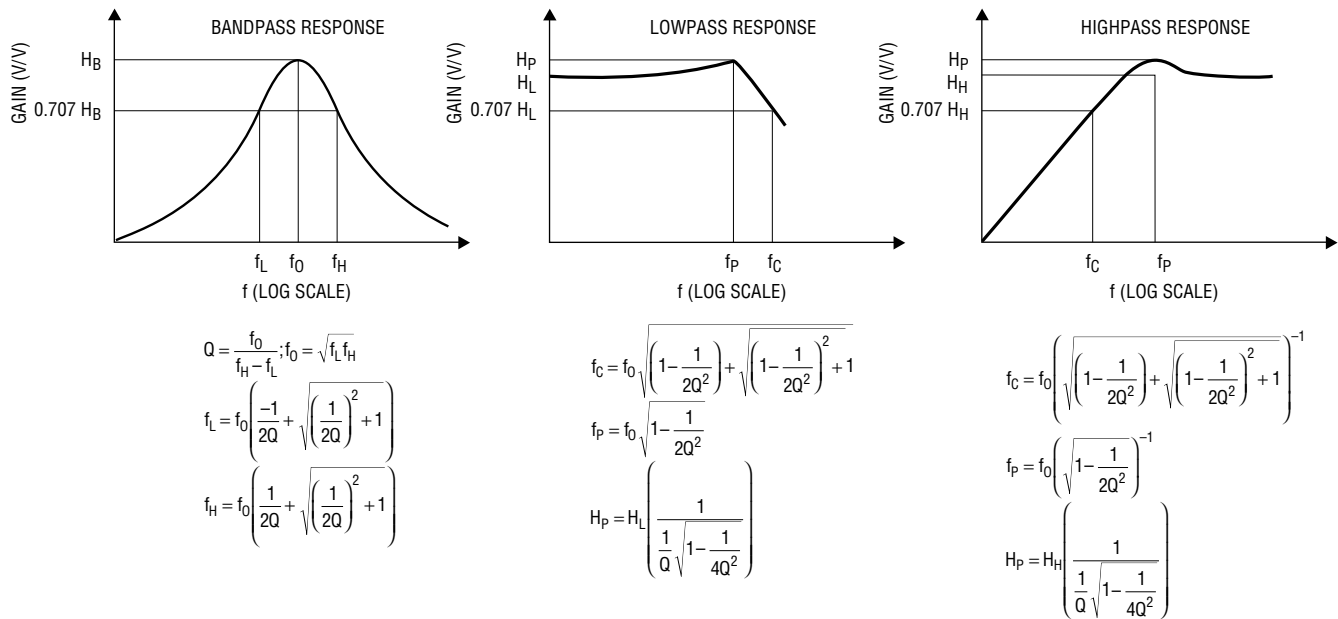

Figure 4. Characteristics of Standard 2nd Order Filter Responses
Figure 4 shows further details of 2nd order lowpass, bandpass and highpass responses. Configurations to obtain these responses appear in the next three sections.
at frequency  $f_0$ , and for  $Q > 0.707$ , a gain peak occurs at a frequency below  $f_0$ , as shown in Figure 4.
$\omega_0 = 2\pi f_0$  and  $Q$  are set by  $R_2$  and  $R_Q$  as described previously in Setting  $f_0$  and  $Q$ . When  $Z_{IN}$  is a resistor of value  $R_{IN}$ , a bandpass response results at the V1 output (Figure 6a) with a gain parameter  $H_B = R_Q/R_{IN}$ . Alternatively, a capacitor of value  $C_{IN}$  gives a bandpass response at the V2 output (Figure 6b), with the same  $H_{BP}(s)$  expression, and the gain parameter now  $H_B = (R_Q/10k\Omega)(C_{IN}/159pF)$ . This transfer function has a gain magnitude of  $H_B$  (its peak value) when the frequency equals  $f_0$  and has a phase shift of  $180^\circ$  at that frequency.  $Q$  measures the sharpness of the peak (the ratio of  $f_0$  to  $-3dB$  bandwidth) in a 2nd order bandpass function, as illustrated in Figure 4.
Parameters  $\omega_0 = 2\pi f_0$  and  $Q$  are set by  $R_2$  and  $R_Q$  as above. The highpass gain parameter is  $H_H = C_{IN}/159pF$ . For a 2nd order highpass response the gain magnitude at frequency  $f_0$  is  $QH_H$ , and approaches  $H_H$  at high frequencies ( $f \gg f_0$ ). For  $Q > 0.707$ , a gain peak occurs at a frequency above  $f_0$  as shown in Figure 4. The transfer function includes a sign inversion.
Standard 2nd order filter algebra, as in Figure 4 and the various transfer-function expressions in this data sheet, uses a center frequency parameter  $f_0$  (or  $\omega_0$ , which is  $2\pi f_0$ ).  $f_0$  can also be measured in practical ways, including:
- The geometric mean of the  $-3.01$ dB gain frequencies in a bandpass ( $\sqrt{f_L f_H}$  in Figure 4)